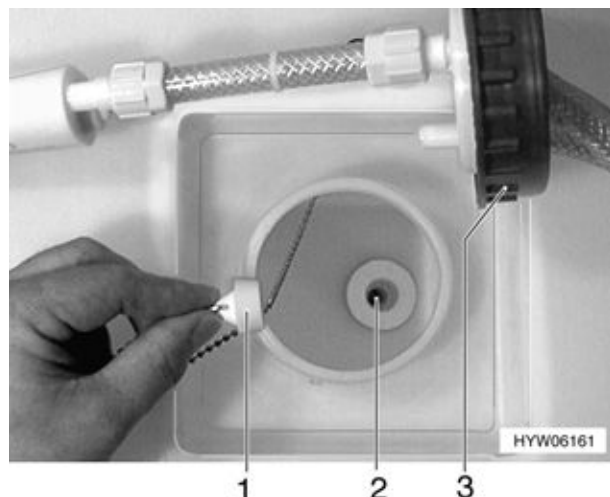

Fig. 160 Water tank, stopper (variant 1)
Variant 1 (Fig. 160):
- Close the drainage opening (Fig. 160,2) in the water tank with the stopper (Fig. 160,1) provided.
- Remove the plug (Fig. 160,1).